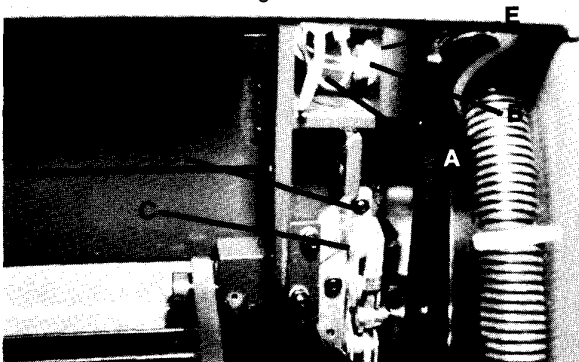
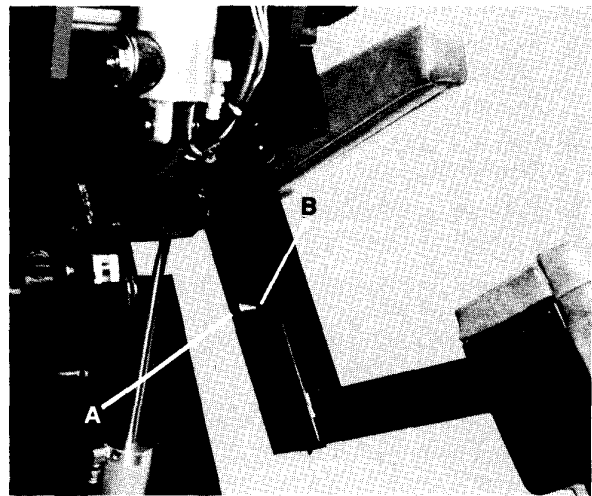

Fig. 22
Fig. 23
- 2) Disconnect the wires leading into the leg support by pulling apart the quick-connect wire connectors ((4) connectors for left-hand leg support and (2) connectors for right-hand leg support) and removing (1) screw securing the green grounding wire. The wire connectors are located inside the back section at the leg support pivot, Pt. A, Fig. 22.
- 3) Remove the "E"-ring, Item B, Fig. 22 and any spacer washers, Item E, Fig. 22 from the leg support pivot.
- 6) Replace spacer washers, Item E, Fig. 22 and "E"-ring, Item B, Fig. 22 on leg support pivot.
- 7) Connect the quick-connect wire connectors, matching wire colors and wire marker numbers, and attach the green grounding wire to the back section by installing (1) #10-24x3/8" screw through the grounding wire ring terminal.
The leg support latch mechanism consists of two parts. A latch pin, Item A, Fig. 23 on the leg support and a lock assembly, Item C, Fig. 22 mounted in the back section. For ease of operation the latch pin should engage and disengage the lock assembly smoothly.
- 1) The latch pin, Item A, Fig. 23 may be adjusted by loosening the lock nut, Item B, Fig. 23 with a 9/16" wrench and screwing the latch pin in or out accordingly.
- b. loosening the (3) 1/4"-20 hex nuts, Item D, Fig. 22.
- c. adjusting the position of the lock assembly and tightening the (3) 1/4"-20 hex nuts, Item D, Fig. 22.